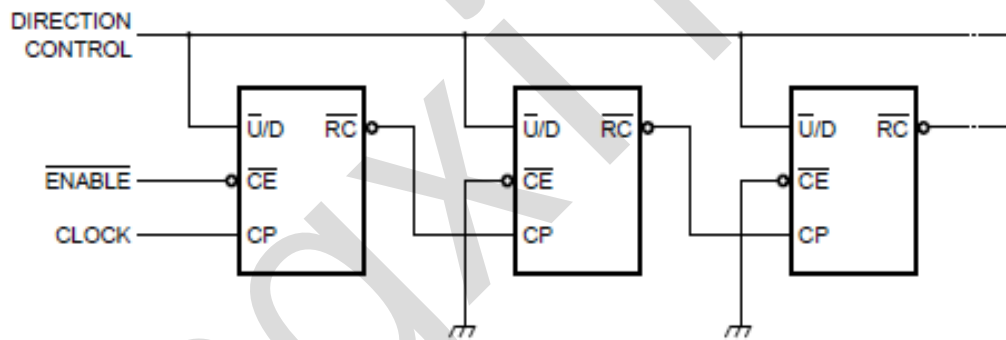
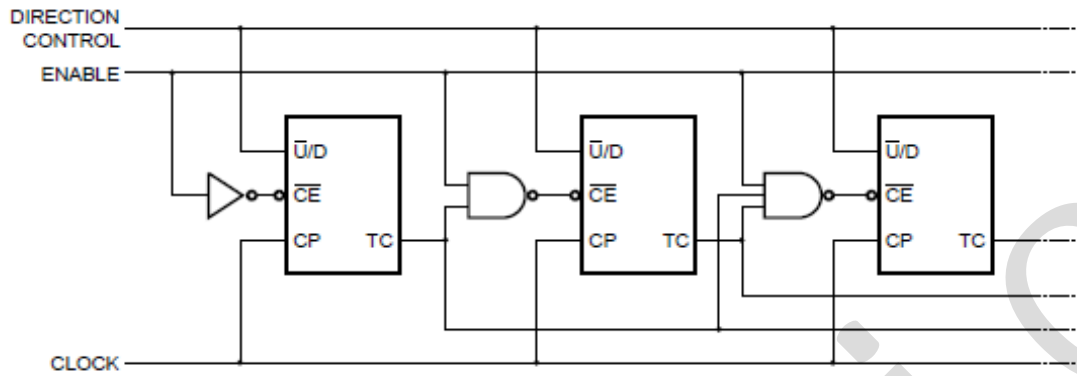

Figure 5. N-stage ripple counter using ripple clock
Figure 7. Synchronous n-stage counter with parallel gated carry/borrow
Overflow/underflow indications are provided by two types of outputs, the terminal count (TC) and ripple clock ( $\overline{RC}$ ). The TC output is normally LOW and goes HIGH when a circuit reaches zero in the count-down mode or reaches “9” in the count-up-mode. The TC output will remain HIGH until a state change occurs, either by counting or presetting, or until  $\overline{U/D}$  is changed. Do not use the TC output as a clock signal because it is subject to decoding spikes. The TC signal is used internally to enable the  $\overline{RC}$  output. When TC is HIGH and  $\overline{CE}$  is LOW, the  $\overline{RC}$  output follows the clock pulse (CP). This feature simplifies the design of multistage counters as shown in Figure 5 and 6.
In Figure 5, each  $\overline{RC}$  output is used as the clock input to the next higher stage. It is only necessary to inhibit the first stage to prevent counting in all stages, since a HIGH on  $\overline{CE}$  inhibits the  $\overline{RC}$  output pulse as indicated in the function table. The timing skew between state changes in the first and last stages is represented by the cumulative delay of the clock as it ripples through the preceding stages. This can be a disadvantage of this configuration in some applications.
In Figure.7, the configuration shown avoids ripple delays and their associated restrictions. Combining the TC signals from all the preceding stages forms the  $\overline{CE}$  input for a given stage. An enable must be included in each carry gate in order to inhibit counting. The TC output of a given stage is not affected by its own  $\overline{CE}$  signal therefore the simple inhibit scheme of Figure 5 and 6 does not apply.